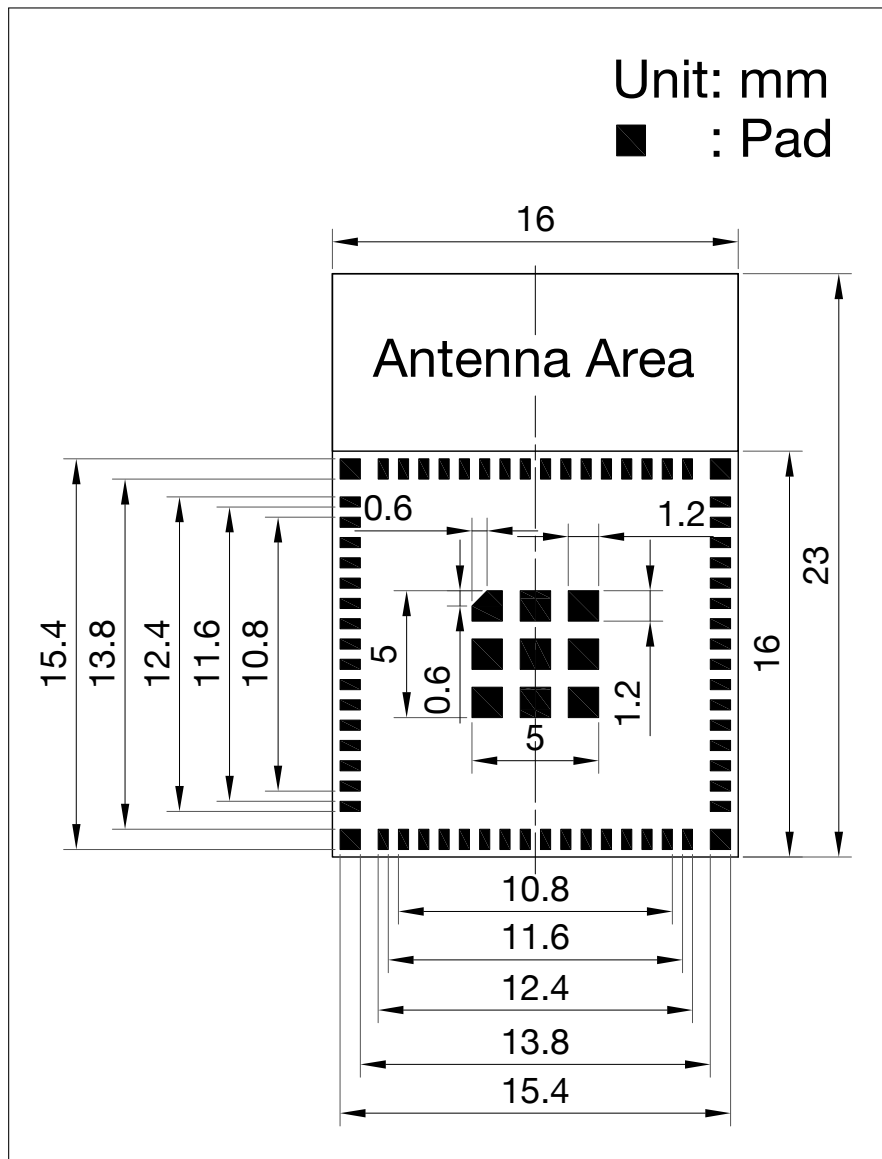

Figure 6: Recommended PCB Land Pattern
- Figures for recommended PCB land patterns with all the dimensions needed for PCB design. See Figure 6 Recommended PCB Land Pattern.
- Source files of recommended PCB land patterns to measure dimensions not covered in Figure 6. You can view the source files for ESP32-PICO-V3-ZERO with Autodesk Viewer.